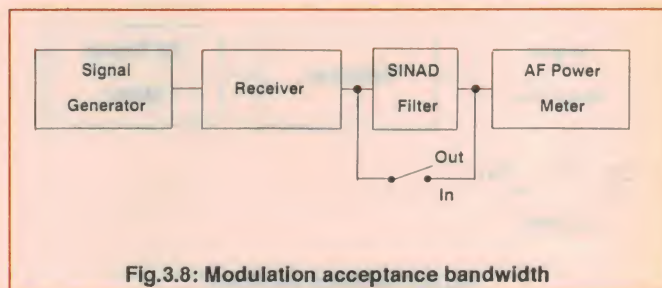

Fig.3.8: Modulation acceptance bandwidth
- i) Connect the equipment as shown in Fig.3.8.